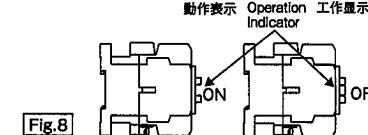

Fig.8
- (1)動作表示部の位置で動作状態の確認ができます。(Fig.8)
- (1) Operation indicator shows contactor operates or not. (Fig.8)